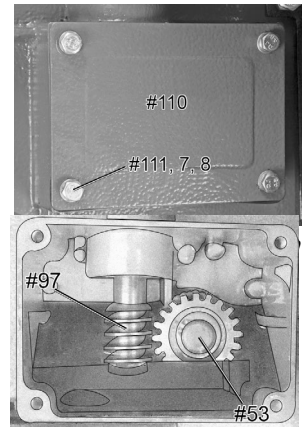

Fig. 31
3. Remove the old oil from inside the Gear Box and replace the oil using 140 weight gear oil. The new oil should just come to the edge of the Gear Box. Do not overfill (Fig. 31).